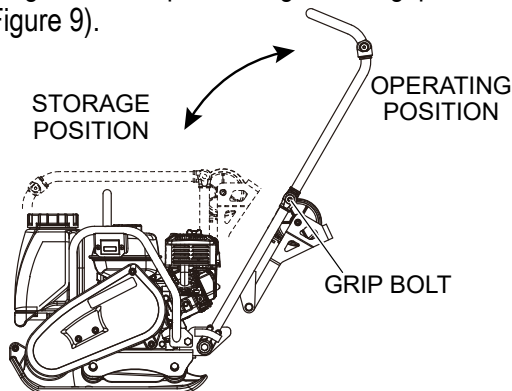

Figure 9. Folding Handle Check
1. Check the Vibration Absorbing System (VAS) folding handle to fix at storage or operation position. When fixing the handle position, tighten the grip bolts securely (Figure 9).